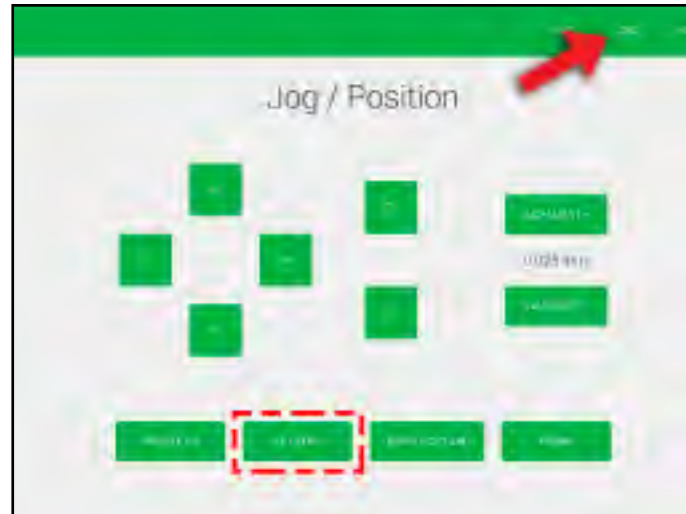

Figure 10-9
2. On the *Jog* screen, click the **Set Zero** button. See **Fig. 10-9**.